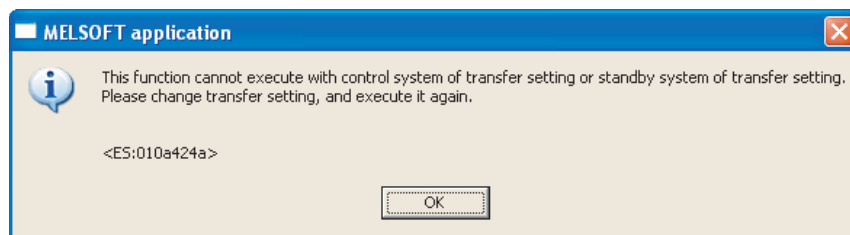

Figure 12.28 Error dialog box
- It is recommended to turn off the output (Y) from the output module/I/O combined module to be changed online before it is changed.
- When making an online module change for the Redundant CPU, specify "No settings have been made (Default)", "System A" or "System B" as the target system in the "transfer setup" by GX Developer. Do not specify the "Control system" or "Standby system" as the target system. If the "Control system" or "Standby system" is specified in the transfer setup, the following error dialog (refer to Figure 12.28) appears at execution of an online module change. When the following error dialog is displayed, change the target system to "No settings have been made (Default)", "System A" or "System B", and then perform an online module change.